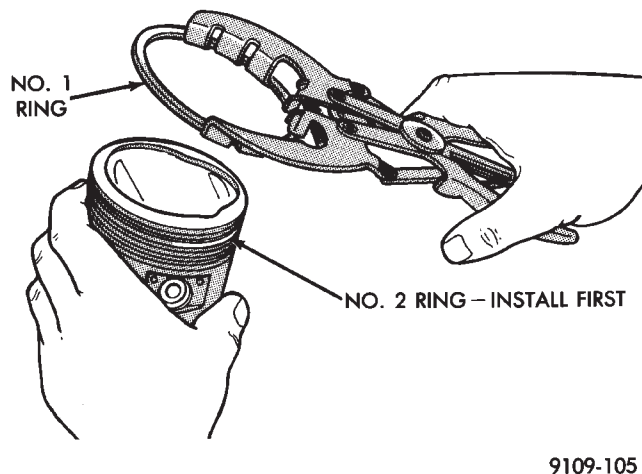

Fig. 11 Upper and Intermediate Rings—Installation
(9) Install No. 2 piston ring and then No. 1 piston ring (Fig. 11).